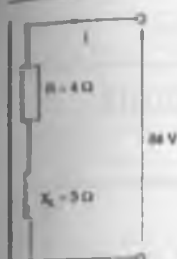

Figure 15.25
- 16 The amplitude of the current I flowing in the circuit of Fig. 15.25 is: